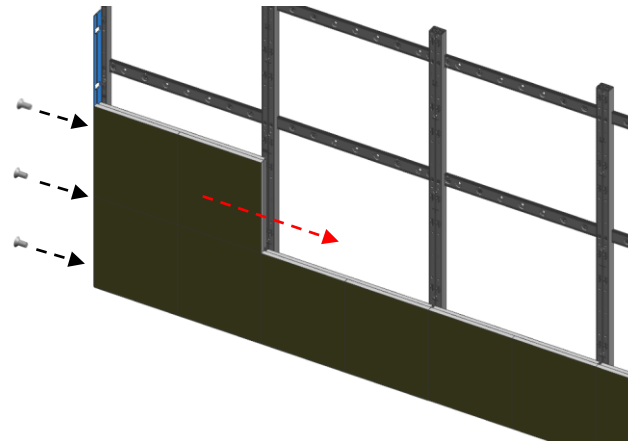

Fig.5 Fasten the screw with Align jig when installing the 2nd stage of the Cabinet.
- ⑤ When installing the second stage, fasten the screw after attaching it to the Align jig in the same way as the first stage installation method. (Fig.5)